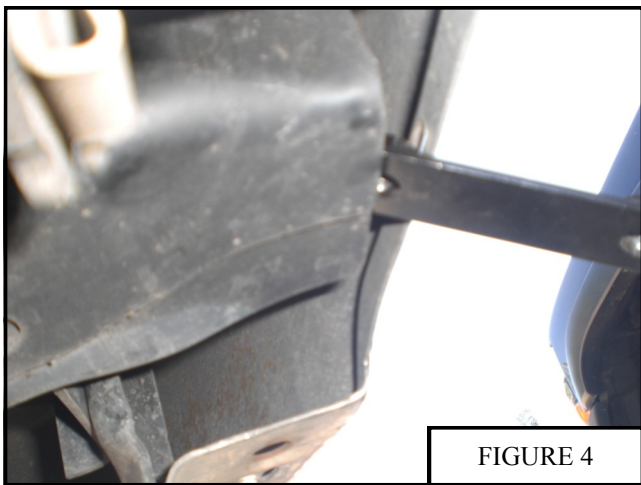

FIGURE 4
5. Insert one M12 double nut plate (ITEM 13) into each frame rail. Line up the nuts with the two round holes on the frame rail. (FIGURE 4,5)